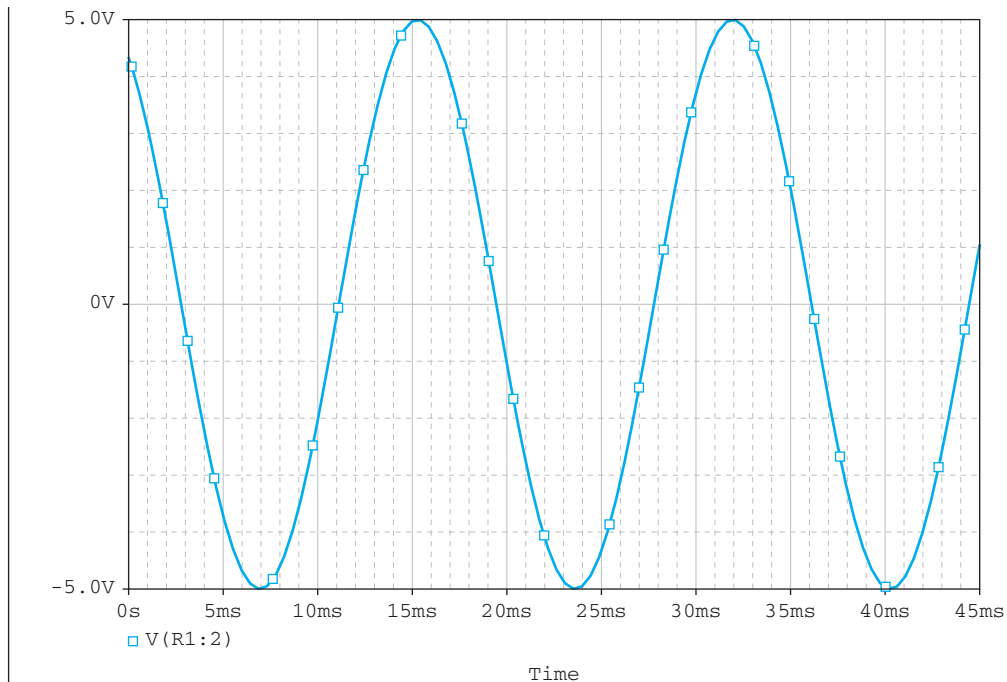

FIGURE 6.61 Sinusoidal voltage source across the resistor plot.
7. The voltage across the resistor plot is shown in Figure 6.61.